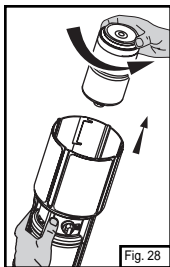

Fig. 28
- ⇒ Remove propane cylinder from lantern. (Fig. 28)